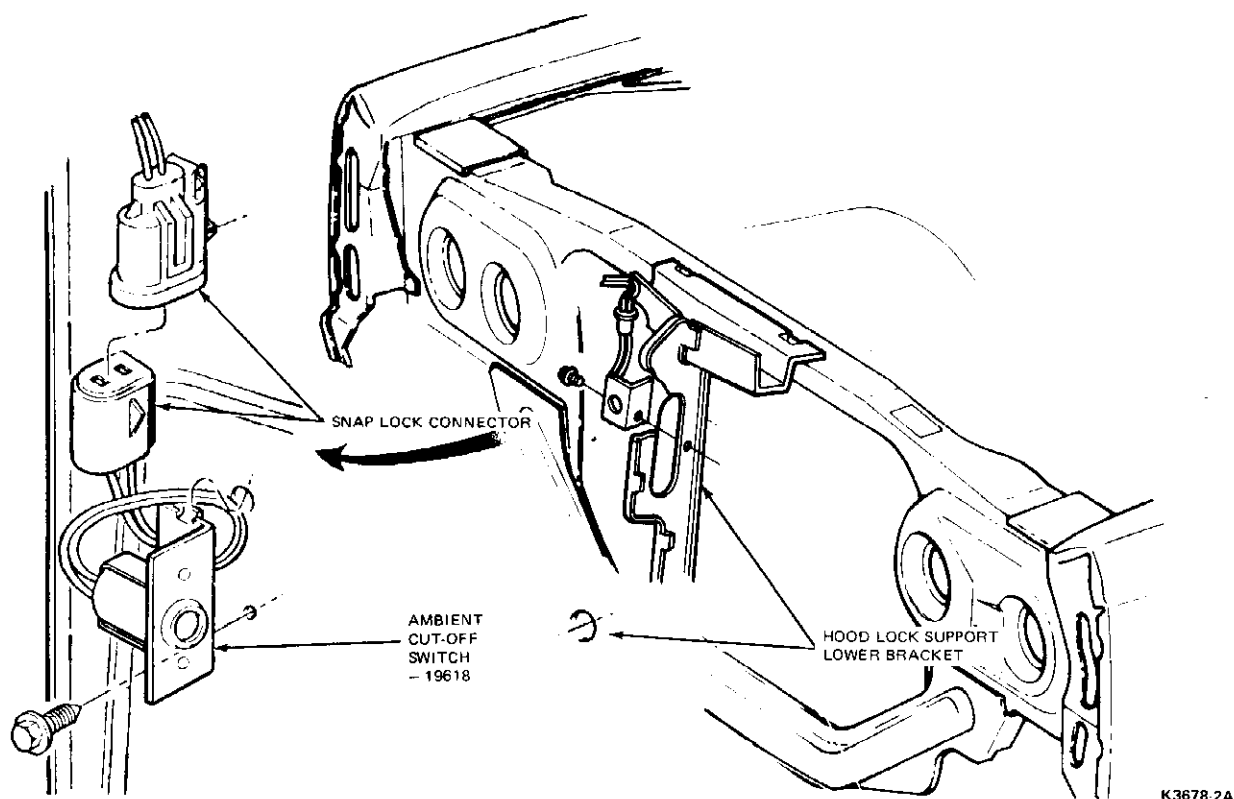

FIG. 49 Ambient Cut-off Switch Removal — Ford, Mercury and Lincoln Continental
2. Remove one screw attaching the ambient cut-off switch to the hood latch support (Fig. 49).
2. Reach down behind the grille and remove one screw attaching the ambient cut-off switch to the hood latch support (Fig. 49).
1. Position the ambient cut-off switch to the hood latch support and install the attaching screw (Fig. 49).